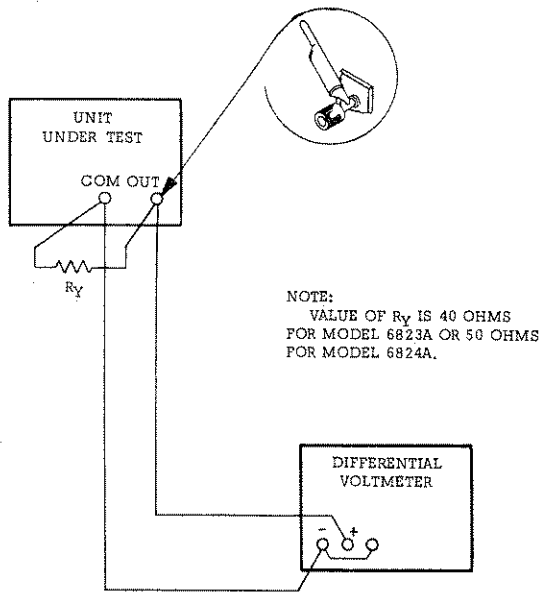

Figure 5-4. Load Regulation, Test Setup
- Connect test setup as shown in Figure 5-4.
b. Connect test setup shown in Figure 5-4.